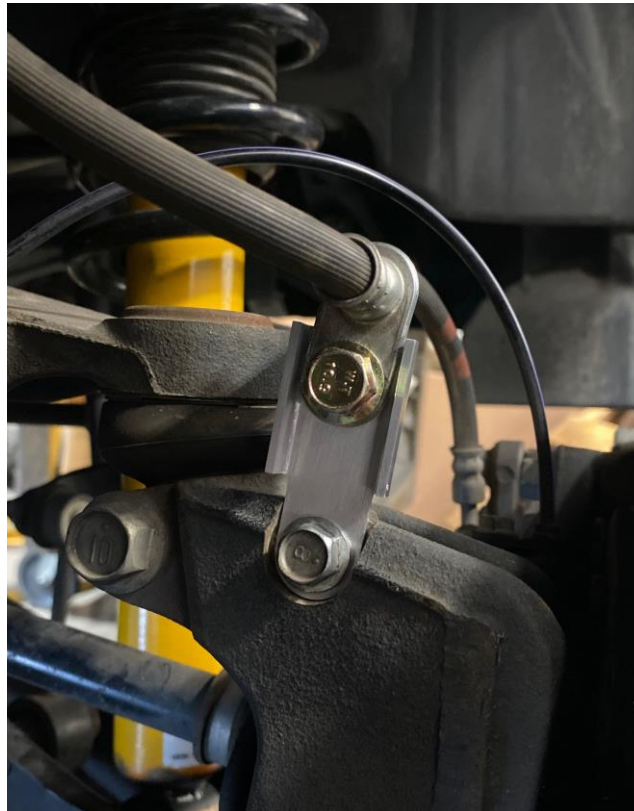

Figure 4.
**AA.** Apply non-permanent thread locker to the OE flange bolt and use it to install the rounded end of the supplied Bilstein brake line relocation bracket to the spindle. Make sure to orient the relocation bracket so the bent flanges are pointing towards the front of the vehicle as shown below in Figure 4.
**BB.** Attach the brake line to the front side of the relocation bracket so it is in between the two bent flanges (to prevent rotation). Use the supplied Bilstein M8 flange bolt and nut to secure the brake line to the relocation bracket as shown below in Figure 4.